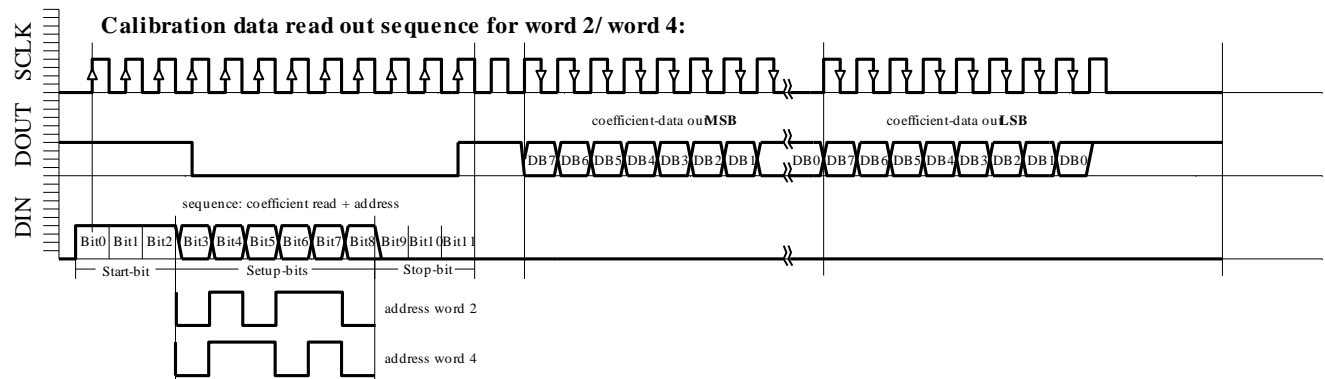

Fig. 6d: W2, W4 READING sequence
- Calibration data read-out sequence for word 2 and word 4 (Figure 6d)